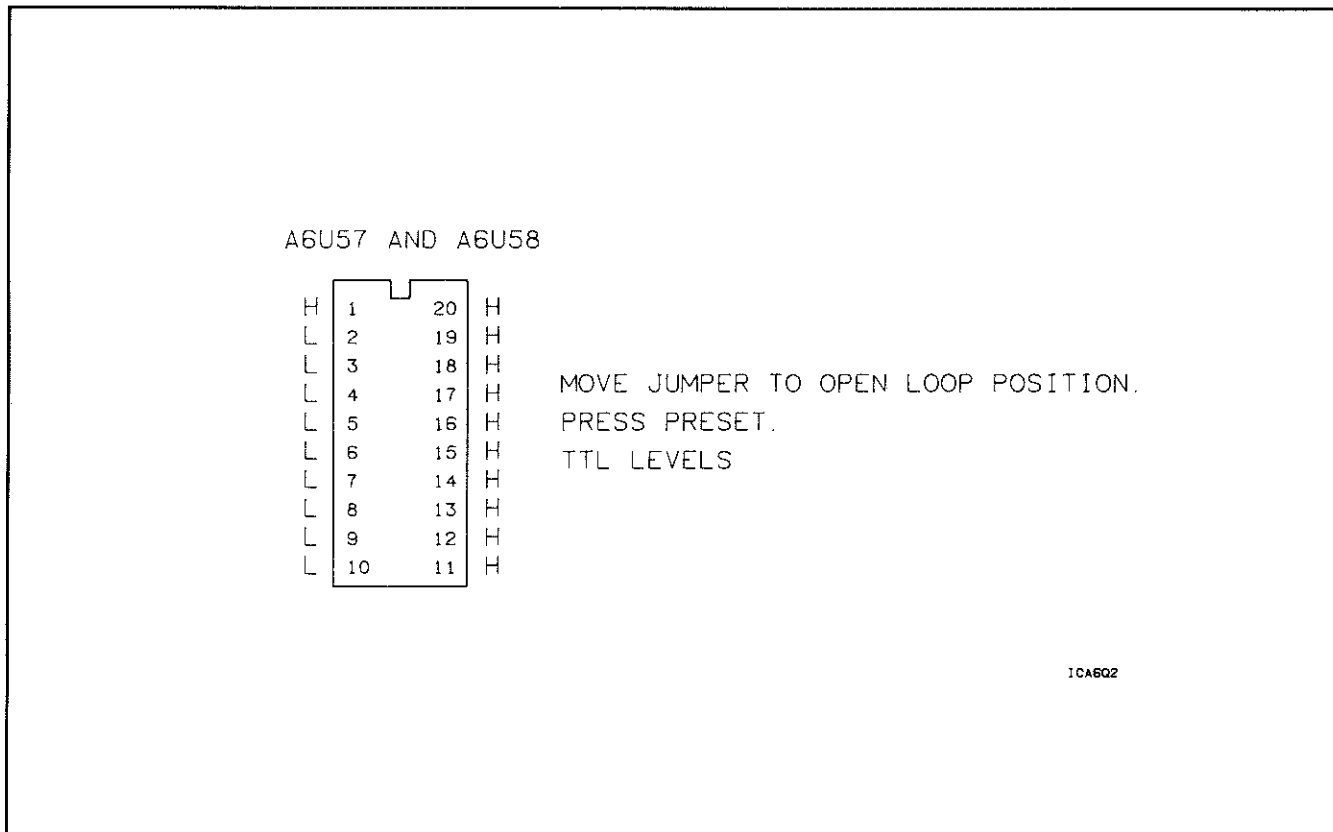

Figure 7F-3. A6U57 and A6U58 Signal Levels
Place the A6 assembly, P/N 05371-60018, on the A15 Microprocessor Extender Board, P/N 05371-60015. Use the DMA Extender Cable, P/N 05371-60225, to connect the A6 assembly to the A5 assembly. Move jumper A6W1 to its open loop position. (See *Figure 7F-2.*) Connect the frequency standard output at the rear panel to channel A. Turn the HP 5371A from STANDBY to ON. After the power-up sequence (ignore any failure messages), press the front panel PRESET hardkey.
1. Replace A6U57 and/or A6U58 if they are not at the levels as indicated in *Figure 7F-3*.